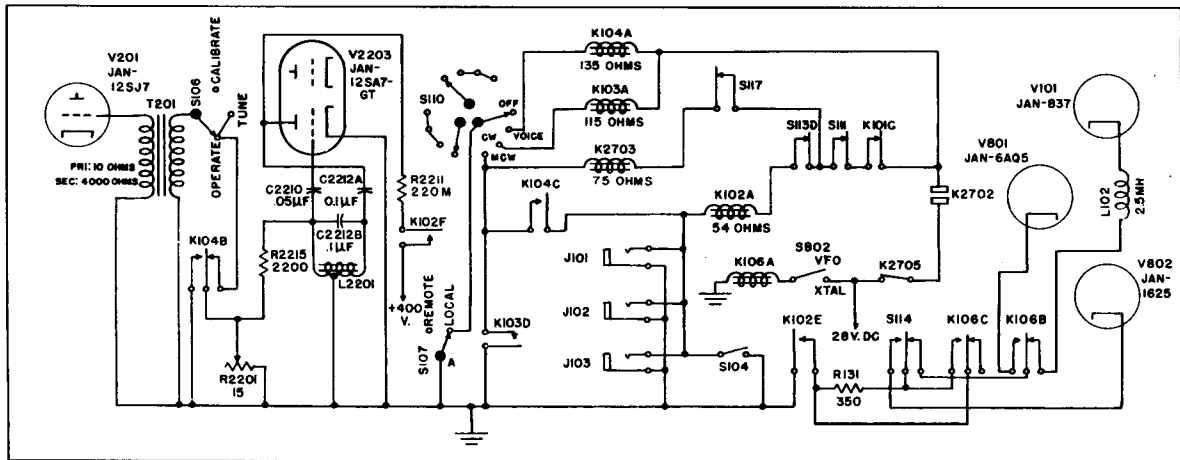

Figure 4-5A. Emission Selection and Carrier Control Circuits — AN/ART-13B
2.g.(6) of this section.
(4) **CRYSTAL-CONTROLLED—LOW FREQUENCY.**—The low frequency oscillator of the CDA-T unit employs a Type JAN-1625 beam pentode tube V802 in a modified Pierce oscillator circuit to cover the frequency range of 300 to 500 kc. Three crystal sockets, one of which accommodates a dual type crystal holder, permit four channel low frequency operation. Switching from one frequency to another is accomplished through the 4-position rotary switch (S802) which shunts out all crystals not in use. An iron core plate choke (L803) may be varied to obtain resonance and provide maximum oscillator output. Screen and plate voltage for V802 is obtained from a tap on the dynamotor low voltage bleeder. Oscillator operation is controlled by opening the cathode lead of V802 as indicated in figure 4-5A. This cathode returns to ground through switch S114 (which is mechanically operated by the "A" control); through relay K106 (controlled by the "VFO-XTAL" switch S802), and finally through the keying relay contacts K102E. For low frequency operation, control "A" must be in position 13, which couples the oscillator output through the Second Multiplier range switch S103, to the grid of the Power Amplifier tube, V104. Frequency output of this oscillator is always the frequency of the crystal in the circuit.
(3A) MODEL AN/ART-13B (Fig. 4-5A).—The r-f carrier is keyed by opening the cathode circuit of the oscillator and removing the screen voltage from the power amplifier. Selection of the channel and method of operation (VFO or XTAL) is accomplished by switching the cathode ground return lead to the desired oscillator. Switch S114, mechanically controlled by the "A" control dial, selects the frequency band. Positions 1 through 12 of control "A" permit operation in the high frequency band; position 13 the low frequency band. Choice of operation, XTAL or VFO, is controlled by switch S802 and relay K106. With switch S802 turned to "XTAL", relay K106 is energized. This relay shorts out R131, and depending on the setting of the "A" control, grounds the crystal oscillator cathode (V801 or V802) through S114 and keying relay con-
(4) CRYSTAL-CONTROLLED OPERATION—LOW FREQUENCY.—The low frequency oscillator of the CDA-T unit employs a Type JAN-1625 beam pentode tube V802 in a modified Pierce oscillator circuit to cover the frequency range of 300 to 500 kc. Three crystal sockets, one of which accommodates a dual type crystal holder, permit four channel low frequency operation. Switching from one frequency to another is accomplished through the 4-position rotary switch (S802) which shunts out all crystals not in use. An iron core plate choke (L803) may be varied to obtain resonance and provide maximum oscillator output. Screen and plate voltage for V802 is obtained from a tap on the dynamotor low voltage bleeder. Oscillator operation is controlled by opening the cathode lead of V802 as indicated in figure 4-5A. This cathode returns to ground through switch S114 (which is mechanically operated by the "A" control); through relay K106 (controlled by the "VFO-XTAL" switch S802), and finally through the keying relay contacts K102E. For low frequency operation, control "A" must be in position 13, which couples the oscillator output through the Second Multiplier range switch S103, to the grid of the Power Amplifier tube, V104. Frequency output of this oscillator is always the frequency of the crystal in the circuit.